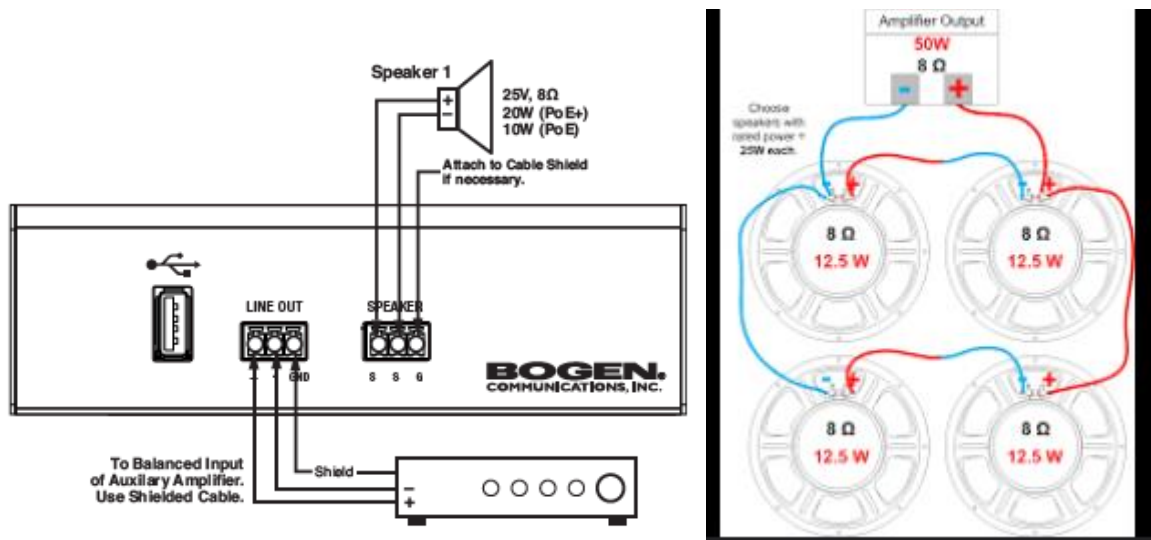

Figure 1: NQ-SER20P2 Audio Connectivity (Sub SER20P2 image & Spkr Dwg)
The Bogen NQ-SER20P2 is Bogen's Nyquist network POE+ powered BT receiver, plenum rated, self-amplified, wireless Bluetooth speech enhancement system. The NQ-SER20P2 contains a mono Class D amplifier that can direct drive up to 4 8-ohm speakers wired series-parallel (See Figure 1). The NQ-SER20P2 can connect via BT to two rechargeable microphones, the (NQ-SEPMIC) is the teacher microphone, the (NQ-SEHMIC) is a handheld student microphone. Pairing these two BT microphones with the NQ-SER20P2 receiver is accomplished via a CAN Bus connected NFC pairing point (NQ-SEPAIR).
1. Attach the desired analog speakers to the NQ-GA20P2 using the pluggable connector provided, where +/- terminals connect to the +/- speaker wires. (See Figure 1.) If applicable, at this time connect the audio line level output to auxiliary audio power amplifiers. The audio line level inputs can be connected to low level audio sources.